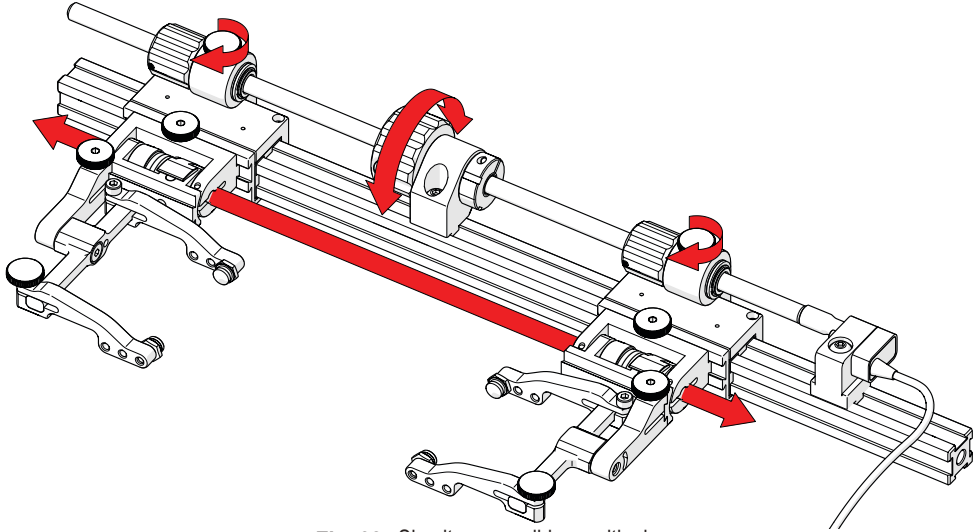

Fig. 32 - Simultaneous slider positioning
3. Ensure the slider knobs are tight and rotate the main knob to position both sliders simultaneously (*Fig. 32*).